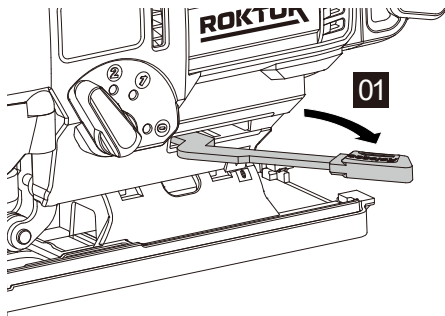

Figure 10-1
5. BASE PLATE ANGLE ADJUSTMENT (SEE FIG. 10-1 & 10-2 & 10-3)